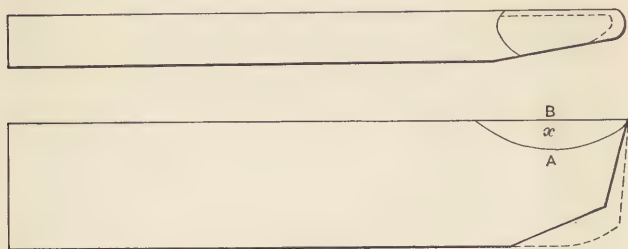

Fig. 36
**Roughing Tool.**—In Fig. 36 is a top and side view of a roughing tool which is very much in demand and is one of the tools that is used both by lathe and planer hands, and is easy to make. Just draw out like a common round-nose tool, and then with a half-round or C
where used for lathe work. These tools are made both right and left hand. The one shown feeds toward the left and should be straight along the left side. The dotted line in the upper view, Fig. 36, indicates clearance, if tool is for planer or shaper. All planer and shaper tools should have less clearance than lathe tools, for both roughing and finishing.